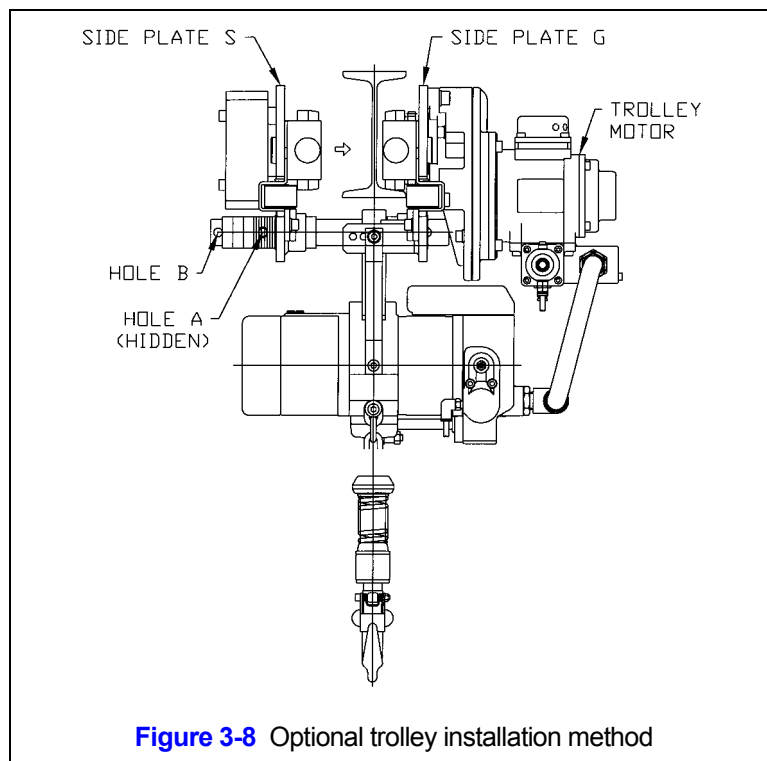

Figure 3-8 Optional trolley installation method
- 1) Move the Shaft Stopper Pin to Hole B (see Figure 3-8).